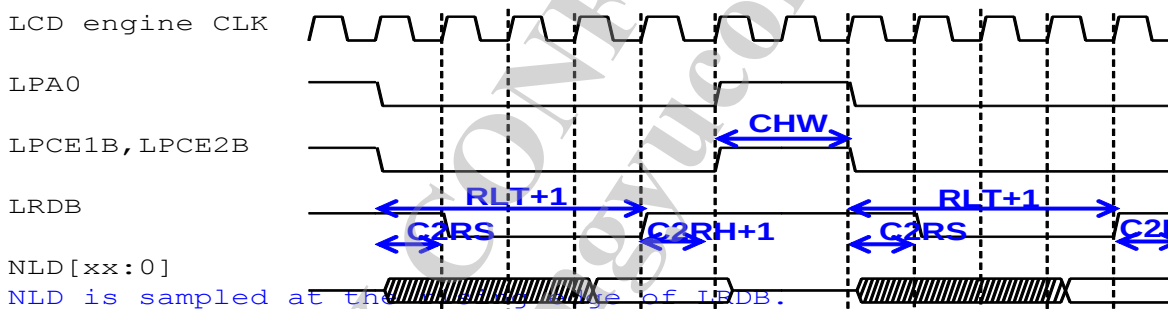

Figure 54. Interface read timing diagram
**RLT**     Read latency time. See Figure 54.
**C2RS**     Chip select (LPCEB0) to read strobe (LRDB) setup time. See Figure 54. **C2RS ≤ RLT.**
**C2RH**     Chip select (LPCEB0) to read strobe (LRDB) hold time. See Figure 54.